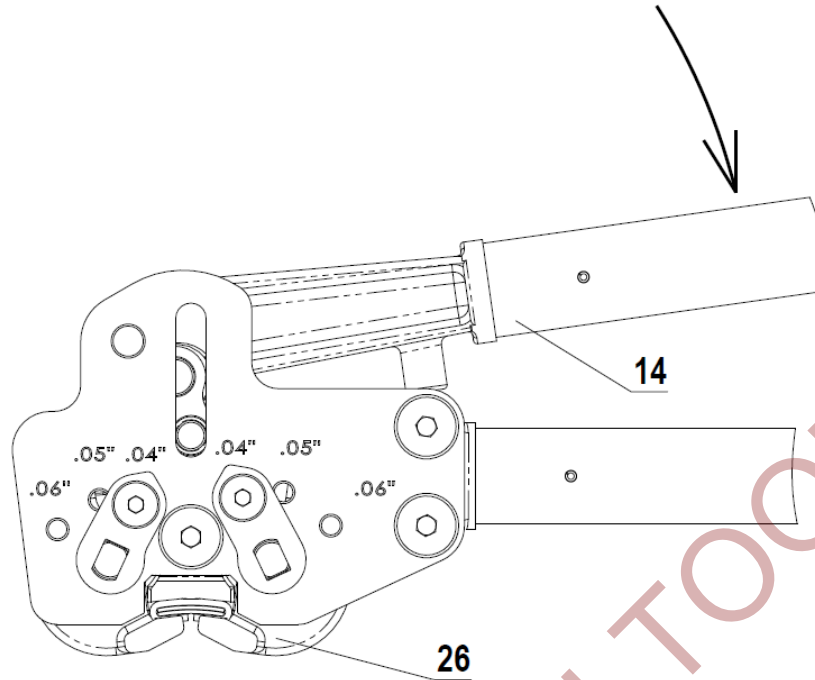

Fig. 3
2. Keeping the **Jaws 26** placed on the middle of the seal move the **Upper Handle Lever 14** to the starting position to close the **Jaws 26** as shown on Fig.3